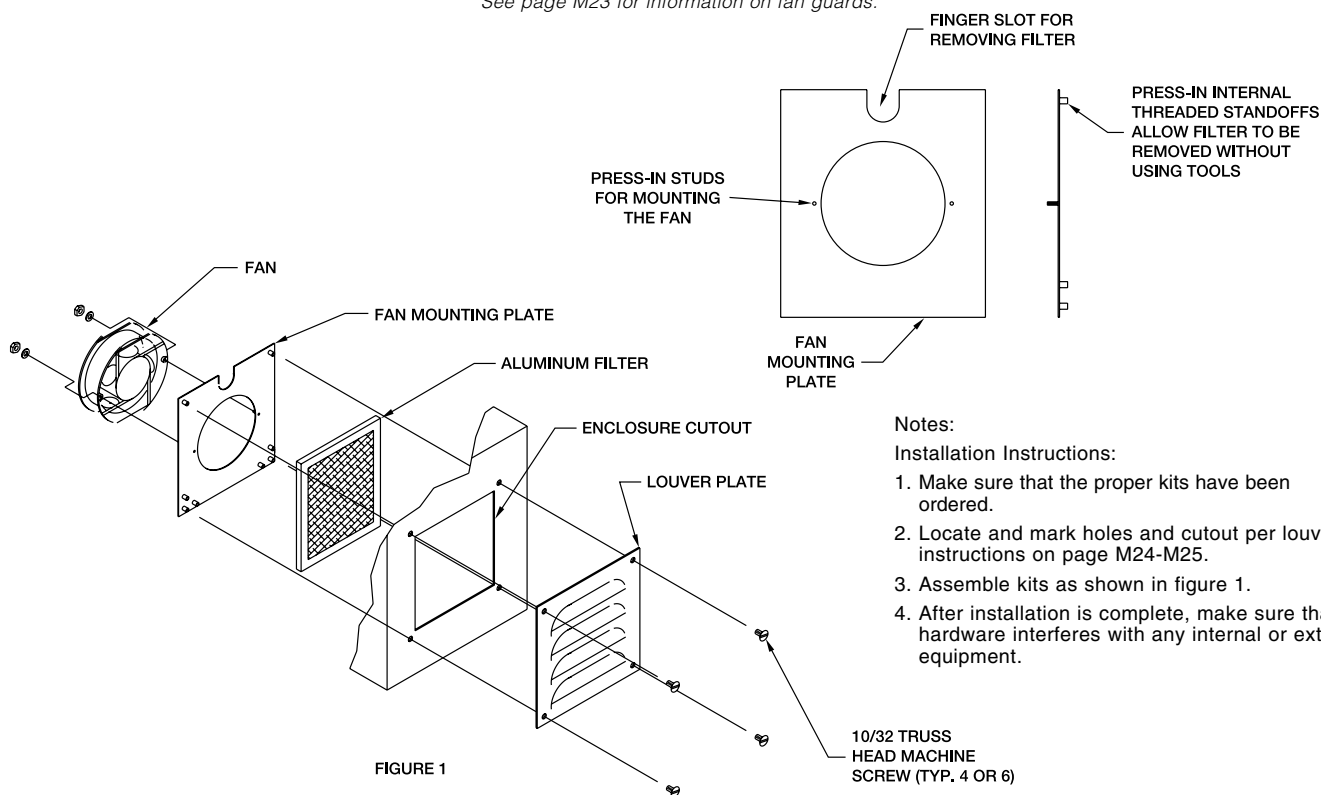

FIGURE 1
- Assemble kits as shown in figure 1.